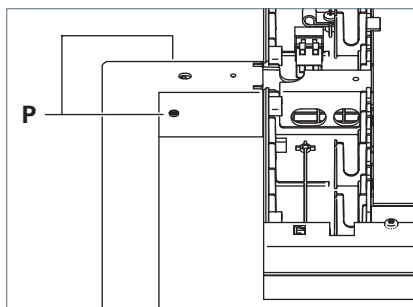

Fig. 7: Aligning the luminaire head perpendicularly to the support tube.
- Align the luminaire head perpendicularly to the support tube and tighten the two grub screws **P** against the support tube counterclockwise by hand, see Fig. 7